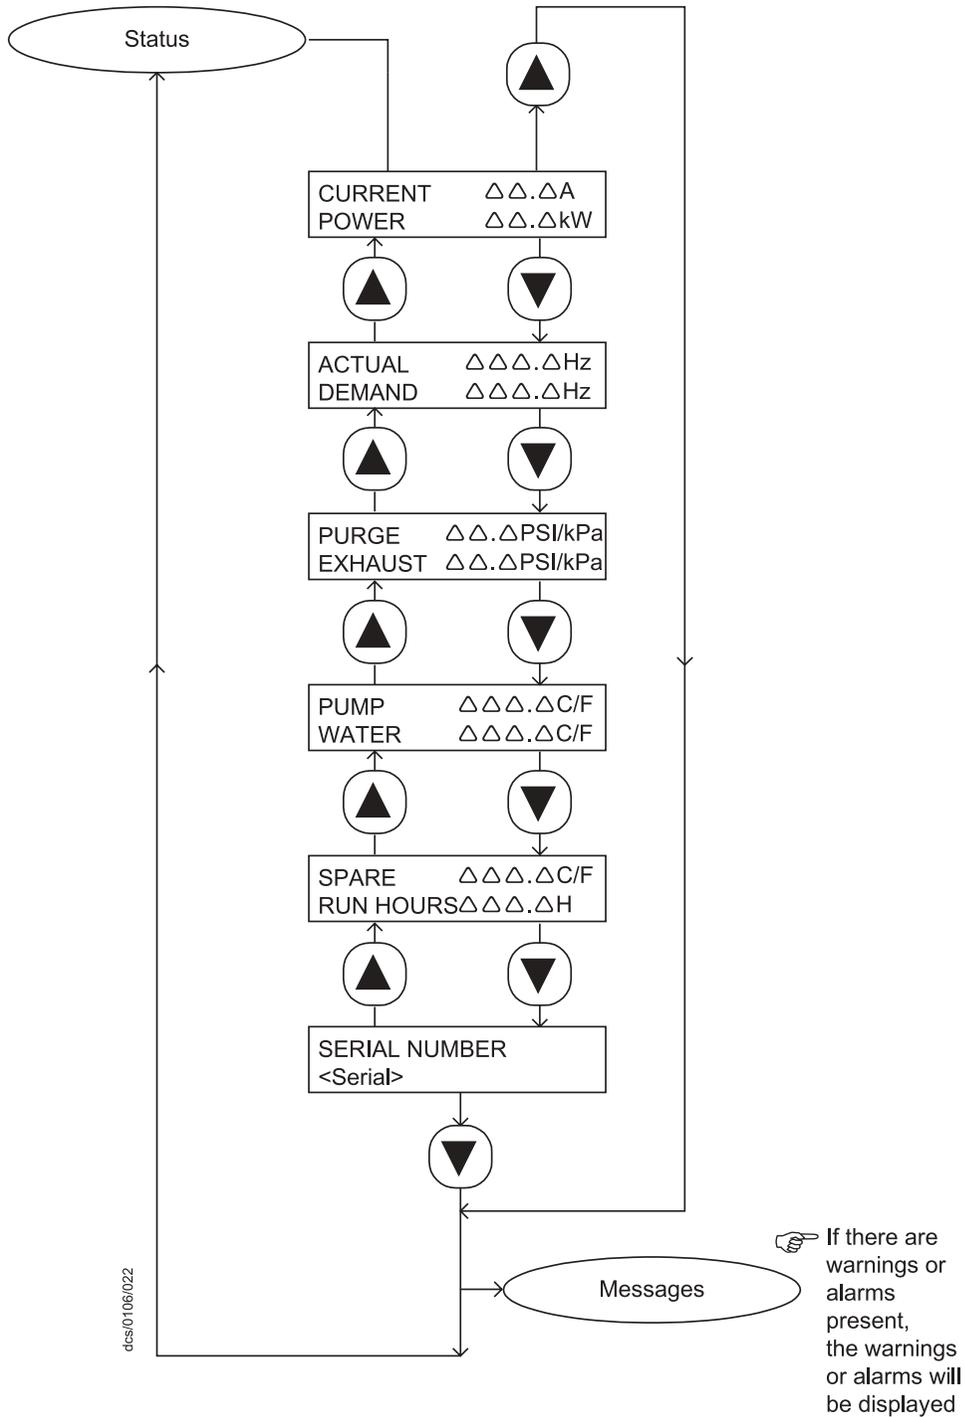

Figure 21 - Status Menu
- In the Status menu (Figure 21), when you press CANCEL the display shows the first two status parameters (the defaults are IPUP E100 current consumption and power consumption).